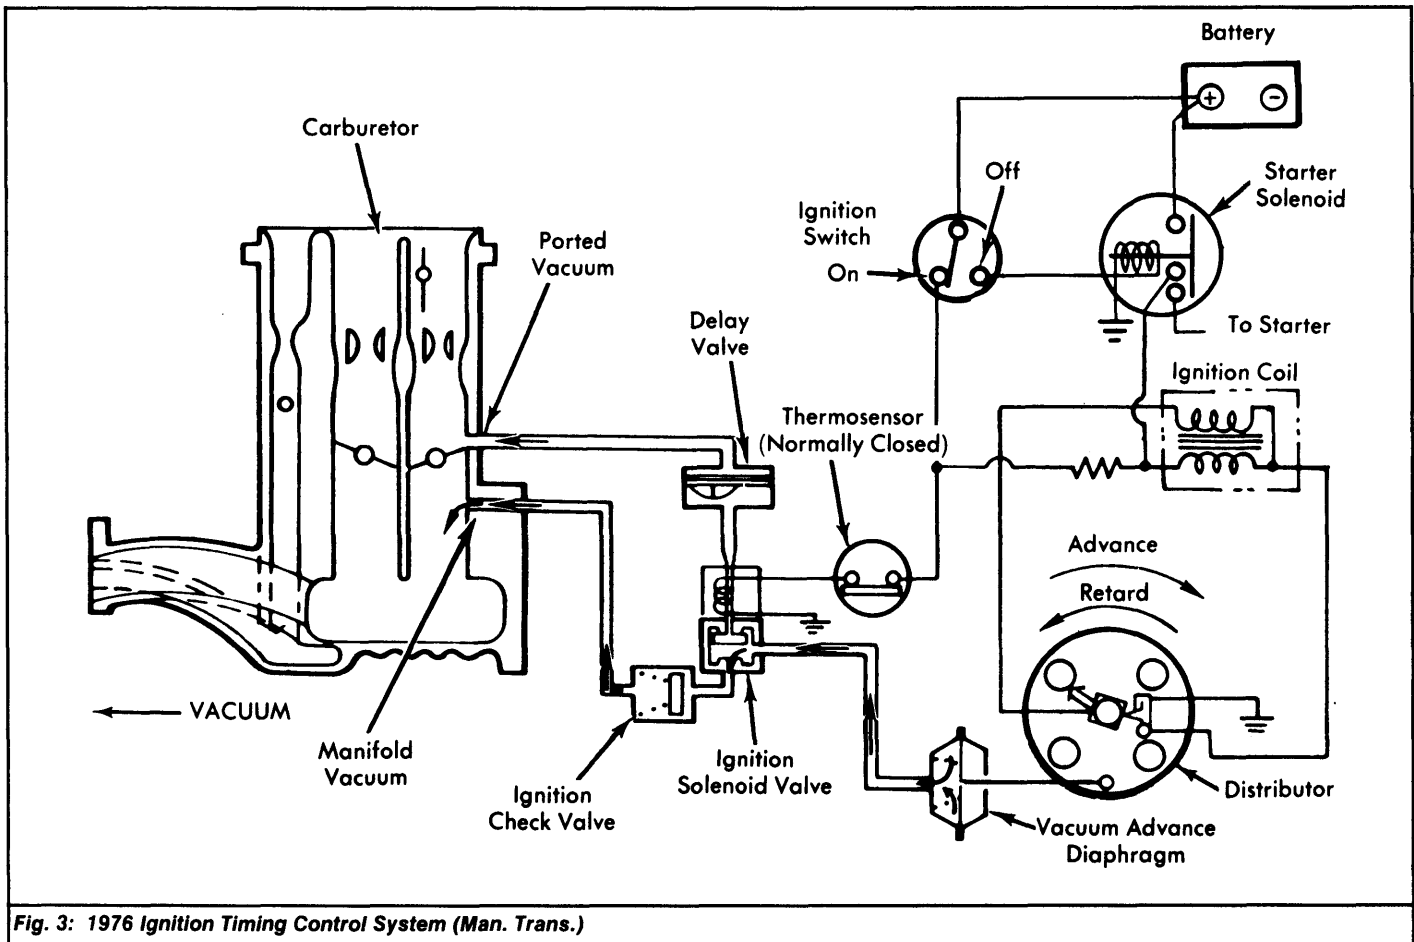

Fig. 3: 1976 Ignition Timing Control System (Man. Trans.)
2) If vacuum holds, turn ignition off. Vacuum should drop to zero (0). If vacuum drops as indicated, start engine. Vacuum should appear on vacuum gauge at idle. If not, check vacuum port in carburetor for blockage. See Fig. 3.